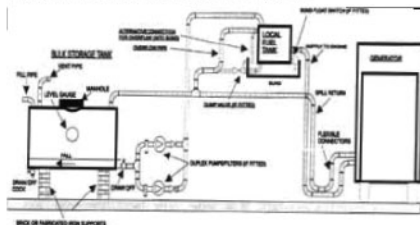

Fig. 5.2. With Intermediate Fuel Tank
5.6. With Intermediate Fuel Tank (Fig. 5.2)
1. An automatic duplex fuel transfer pump and primary filter system arranged to start the standby pump should the duty pump fail. The transfer pump(s) must be sized to cater for the total fuel required by the engine, i.e. fuel consumed and the spill return volumes (Fig. 5.2.);
The connection details for these additional items of equipment are indicated. See Fig. 5.2